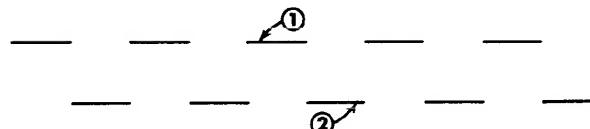
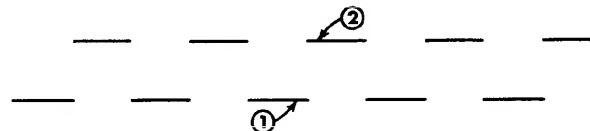
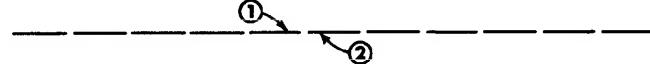

Fig. 2. POSITIONING CONTROL AT EXTREME COUNTER CLOCKWISE POS
Fig. 3. POSITIONING CONTROL AT EXTREME CLOCKWISE POSITION
Fig. 4. POSITIONING CONTROL AT SOME INTERMEDIATE POSITION
- f) Adjust the sweep vernier (fine frequency) control until a pattern of 6-9 cycles is locked in place on the 'scope screen, using as little sync voltage as possible. The pattern should appear as in Fig. 2.
- 4) The POSITIONING control permits adjustment of the separation between the "1" and "2" traces. With it you may superimpose one trace upon the other or reverse the vertical order of appearance of the traces on the 'scope screen. The extreme counter-clockwise position of this control provides maximum separation of the traces for one vertical order of appearance ("1" above "2") as shown in Fig. 2. The extreme clockwise rotation yields maximum separation for the reverse vertical order of appearance ("2" above "1") as shown in Fig. 3. At some setting of the POSITIONING control between the extremes of rotation, one trace will be superimposed upon the other as shown in Fig. 4. Turn the POSITIONING control slowly to the maximum clockwise position and back to the maximum counter-clockwise position observing the action described above.